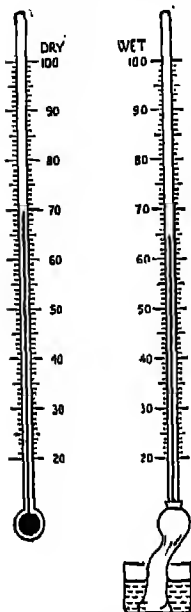

FIG. 263. Wet and dry bulb hygrometer.
**Expt. 301.** Fit up two exactly similar thermometers side by side (Fig. 263). Allow the bulb of one to remain dry in the air of the room. To the bulb of the other fasten a piece of muslin, one end of which trails in a small vessel of water. Note the readings of the two thermometers. The one with the dry bulb gives the higher reading.